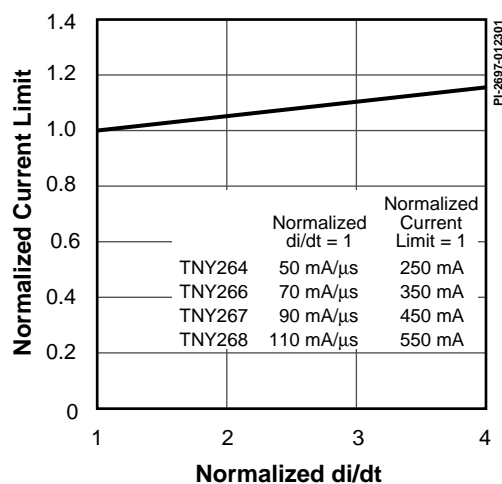

Figure 25. Current Limit vs. di/dt.
- E. For current limit at other di/dt values, refer to Figure 25.